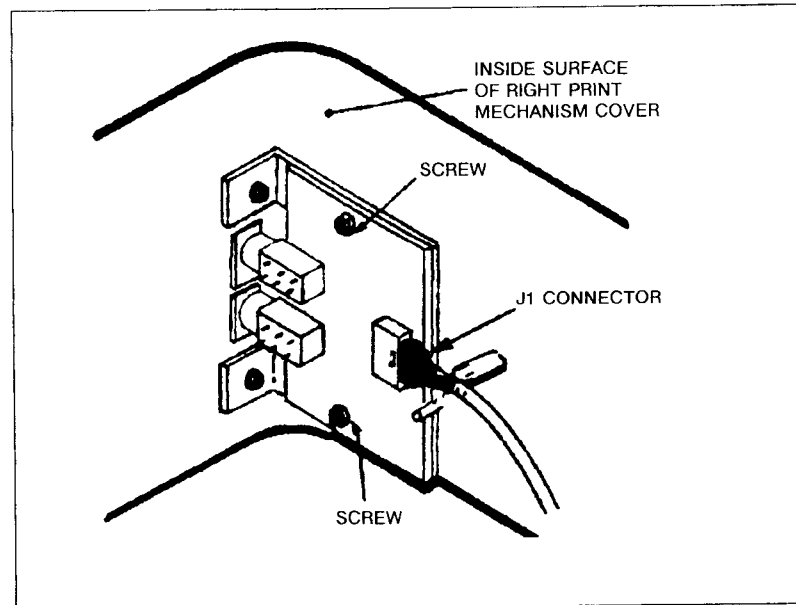

Figure 6-16. Upper Tractor Control PCA
- d. From the underside of the cover, use a 6mm wrench to remove the two nuts securing the PCA and the metal mounting bracket to the plastic cover (see Figure 6-16).
Reverse the above removal procedure to reassemble. Be sure to reassemble the PCA and bracket in the same position that it came off (see Figure 6-16). (It is possible to mount the assembly backwards). After replacement, test the keys to verify proper operation.
- a. Switch the printer offline and the ON/OFF switch to the OFF (0) position.
- c. Remove the four 2 mm Allen screws from the face of the lower tractor control key panel (see Figure 6-16).